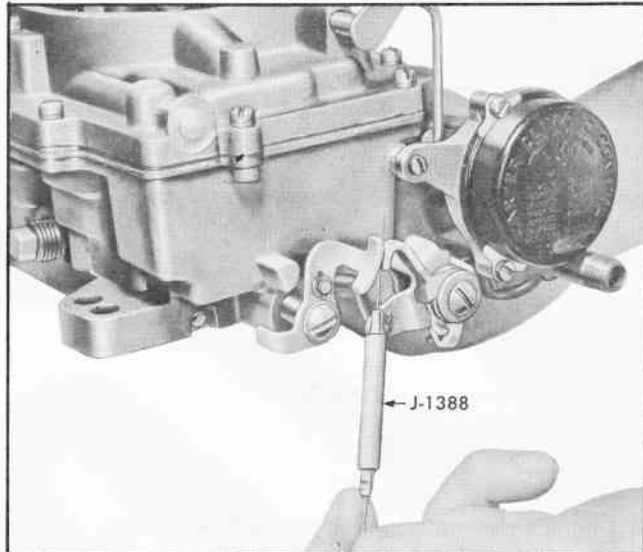

Fig. 30 Checking Secondary Throttle Lever Adjustment
4. There should be $.017$ -. $.022$ " clearance (Gauge J-1388) between positive closing shoes on primary and secondary throttle levers (Fig. 30).